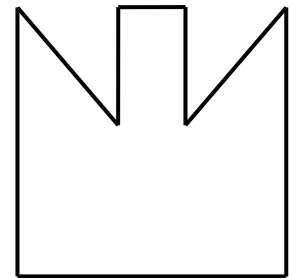

Figure 2
- a. In a 8" x 8" square of TegraTite, cut out two triangles leaving a 2" x 4" strip from the center toward one edge and two additional flanges (Figure 2).